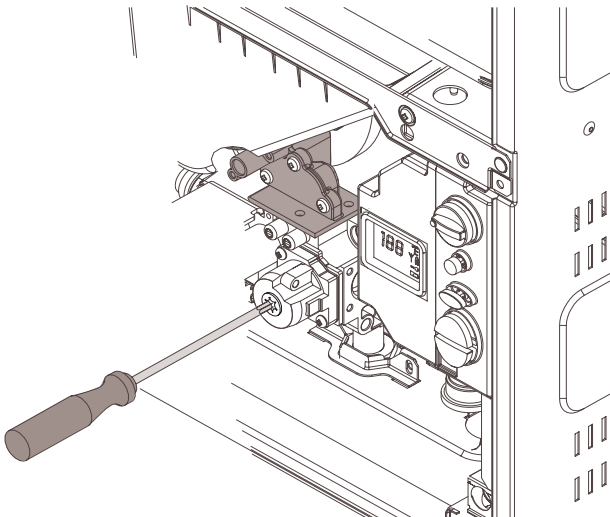

Fig. 43 Adjusting P2 CO2 level
- ▶ Remove yellow painted #40 Torx cover from the front of the gas valve. (Fig. 43) A plastic #40 Torx screw will be revealed.